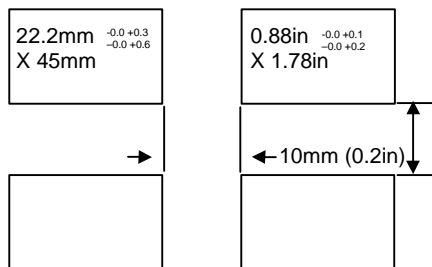

Figure 1-3 Panel cut-outs and minimum spacing
The electronic assembly of the controller plugs into a rigid plastic sleeve, which in turn fits into the standard DIN size panel cut-out shown in Figure 1-3. The controller can be unplugged from its sleeve by easing the latching ears outwards and pulling it forward out of the sleeve. When plugging the controller back into its sleeve, ensure that the latching ears click into place in order to secure the IP65 sealing.
1. Prepare the control panel cut-out to the size shown in Figure 1-3.